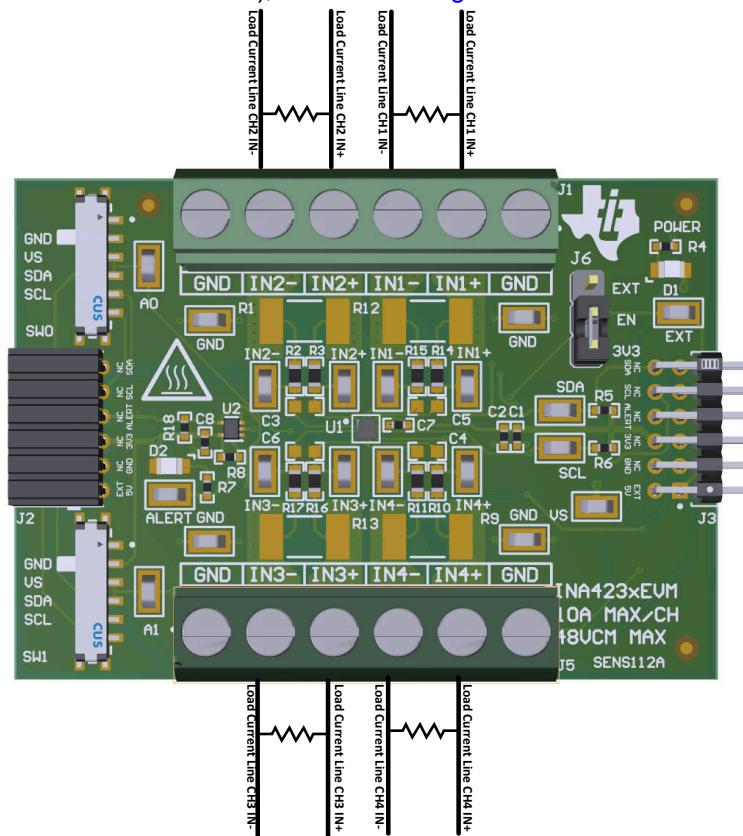

Figure 2-3. IN+ and IN- Wiring for More Than 10A
- b. Connect an external shunt across the IN+ and IN- terminals of J1 or J5 as shown in Figure 2-3.
- a. When measuring more than 10A, verify that the high current path does not go through the EVM (including the terminal blocks J1 or J5), as shown in Figure 2-3.